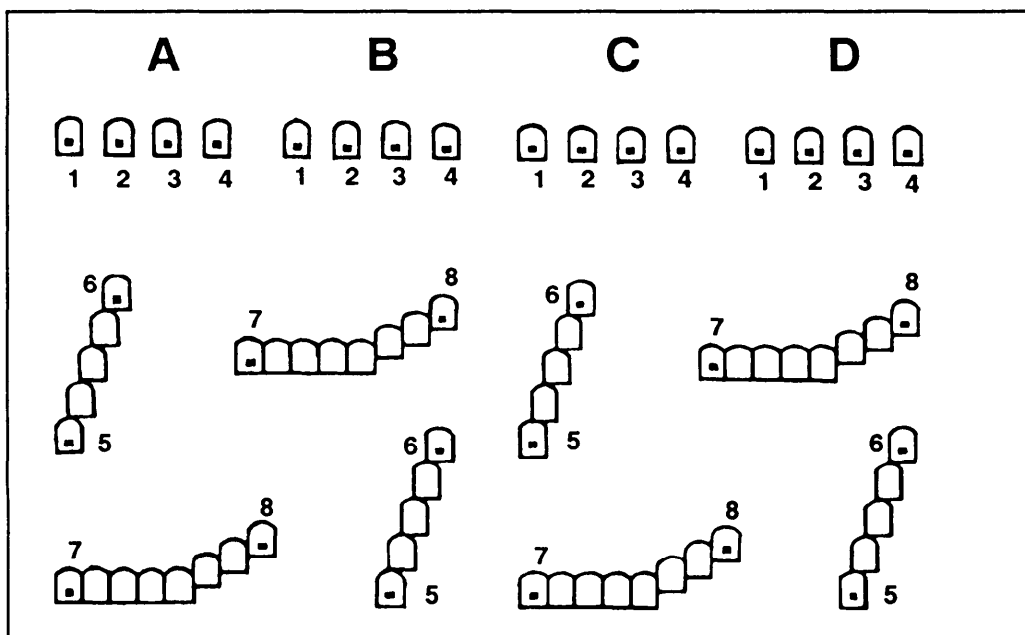

Figure C-4. Basic machine gun target.
c. **Target Analysis.** The exercises use the basic machine gun target (FSN 6920-078-5128) (Figure C-4). The following explanation of the target, including the size of the aiming pasters and scoring spaces, will aid in zeroing the M2 and will facilitate control during firing exercises.